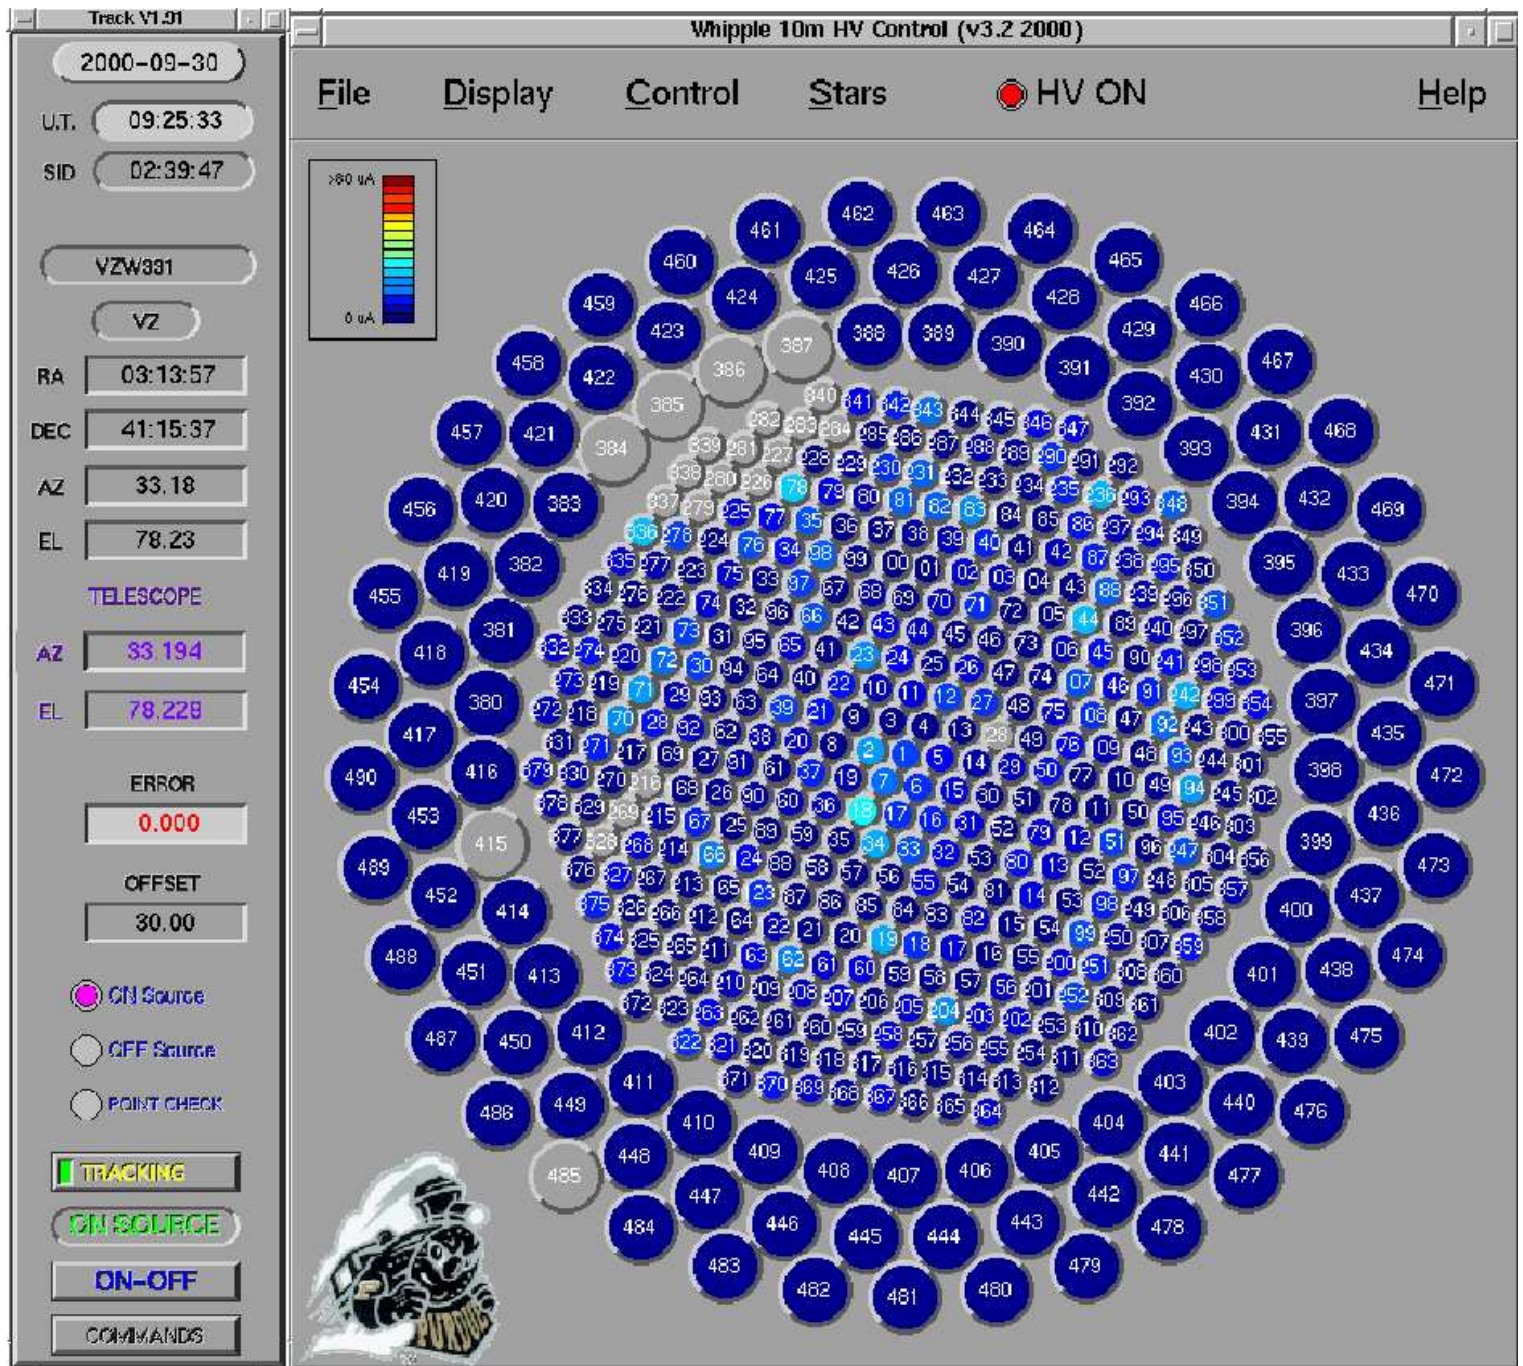

Figure 2.1: The track & HV display for the 10m telescope. Outer (larger) tubes are no longer used.
10. Start the tracking program (make sure to check the time on the tracking PC). See Figure 2.1. If the system time on *track10* is wrong, see §5.2.5.
To start the 10m tracking program, type **track** at the terminal window prompt. This should open a gray window labelled *Gamma Ray 10 Meter*. This window is illustrated in Figure 2.1, you should become familiar with its various controls before you attempt to move the telescope, see §5.2.4.
- To choose a source, click on the box with the source name in it. (The one labelled **VZW331** in Figure 2.1).
6. If taking ON/OFF data, slew to the off position by clicking the circular button next to the phrase **OFF SOURCE** on the left of the tracking program display (see Figure 2.1). If you are taking Tracking data, ignore this step.